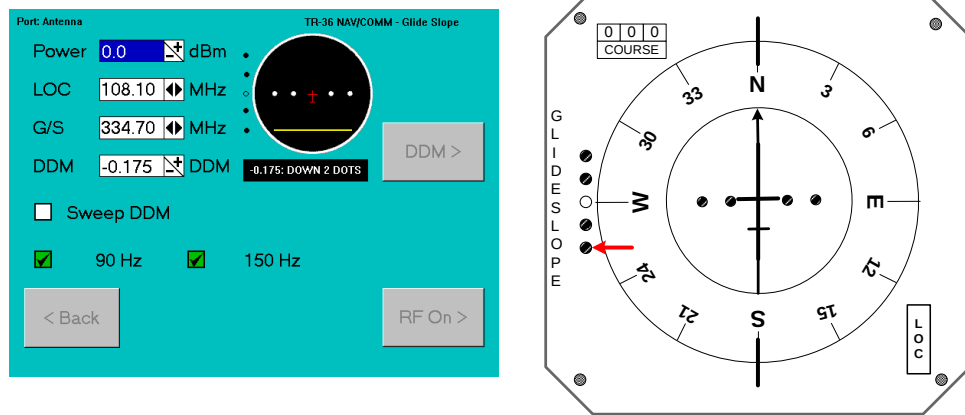

Figure 2-31. Glideslope 2 DOTS Down
10. Select the **DDM** > Soft Key to cycle through the Preset “UP/DOWN DOT Selections” and verify the Aircraft Under Test follows suit (Figure 2-31):